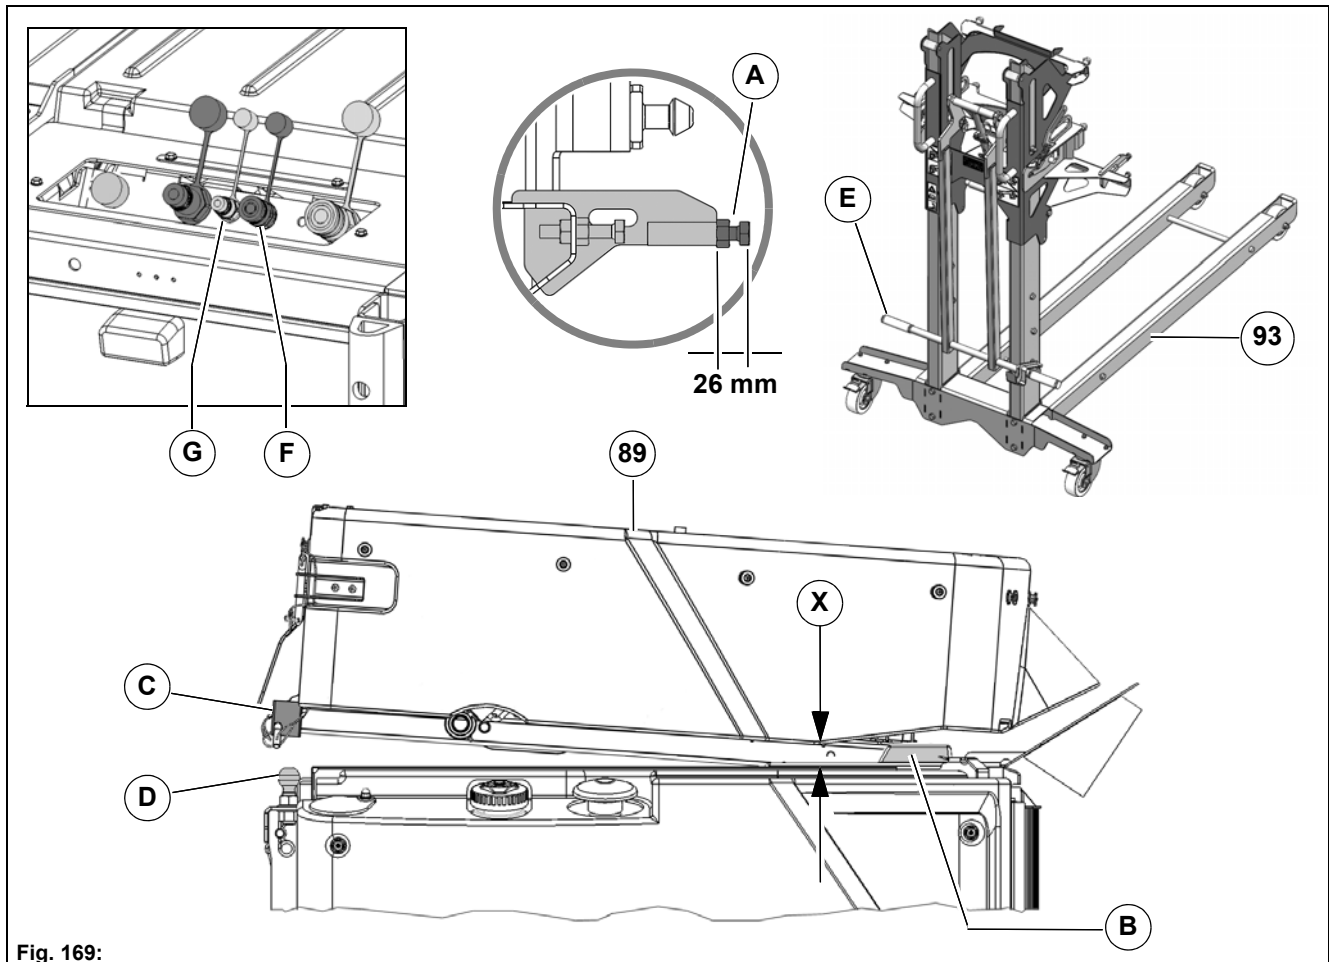

Fig. 169:
- Position the loading platform over the rear wagon and check the gap size **Fig. 169-X** with 5-10 mm. If necessary, correct with the screw **Fig. 169-A**.
- Push the rollers of the loading platform up into the pockets **Fig. 169-B** of the rear wagon.
- The holders **Fig. 169-C** of the loading platform and the holders **Fig. 169-D** of the rear wagon must be in alignment.
9. Unlock the lever **Fig. 169-E** of the trolley and lift the trolley carefully. Let the loading platform down slowly! Withdraw the trolley.
- Loading platform raising/lowering – supply = **Fig. 169-D**
- Loading platform raising/lowering – return = **Fig. 169-E**